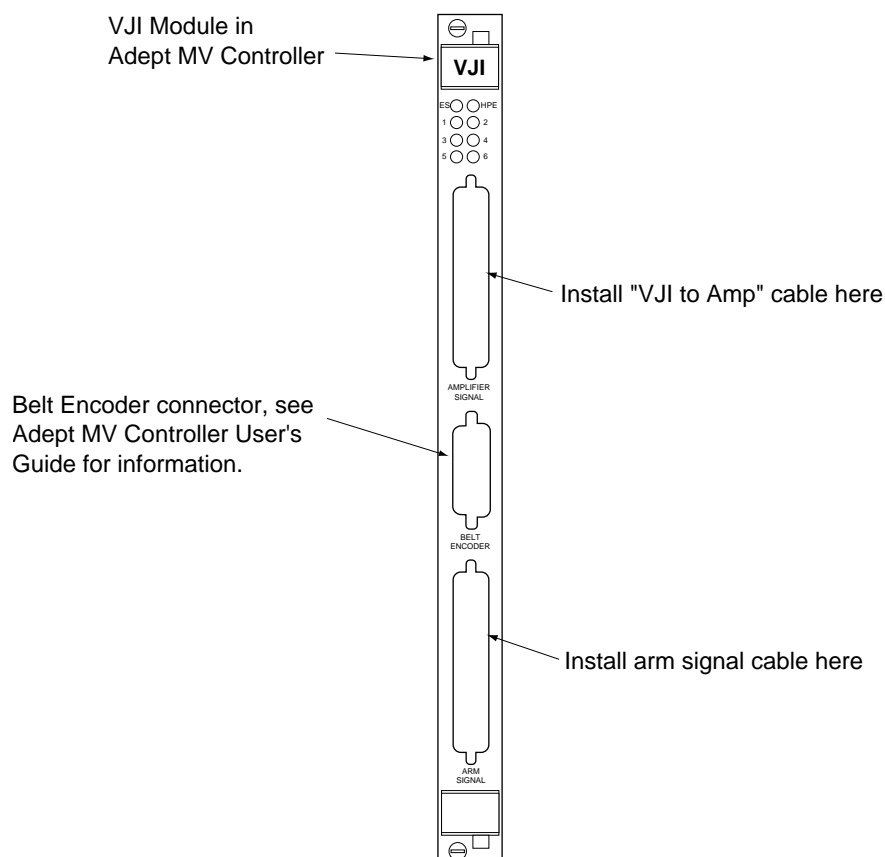

Figure 5-8. Robot to VJI Cable Installation
3. Connect the other end of the cable to the Arm Signal connector (lower) on the VJI module. Tighten the screws. See Figure 5-8.
1. Connect the cable end with the single connector to the connector marked “Amplifier Signal” (upper) on the VJI module. Tighten the screws. See Figure 5-8.